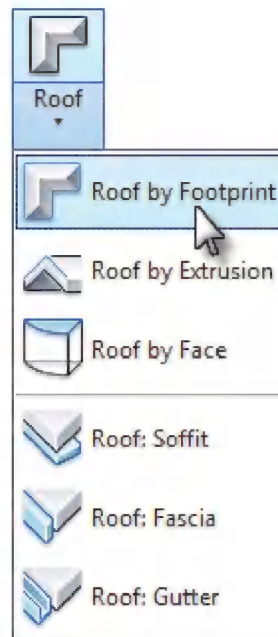

FIGURE 2-4.3 Roof tool
6. Click **Architecture** → **Build** → **Roof** (Figure 2-4.3).